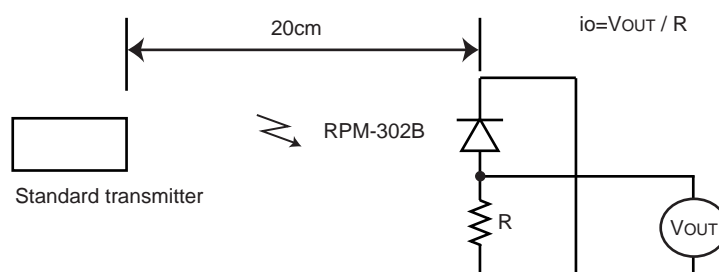

Fig.2 Measurement of standard transmitter proofreading
When standard transmitter output the signal at Fig.1 standard photodiode output become $i_o=5\mu\text{Ap-p}$ under the measurement condition Fig.2.
(1) All characteristics of the receiver in this specification are specified by supplying burst wave form (Fig.1) with ROHM standard transmitter (Fig.2).